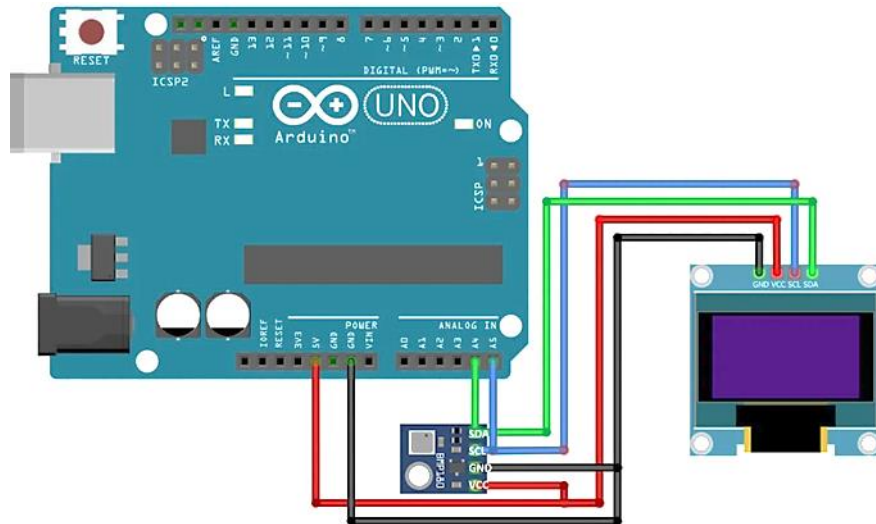

Figure 2: Arduino board's pin connections with a weather sensor and an OLED (schematic diagram)
The circuit diagram of Fig. 2 shows how to connect a weather sensor and an OLED to the Arduino Uno board, but you can follow the same procedure for the Arduino Mega or Arduino Nano. Everything will remain the same except for the pinouts of Arduino Mega or Nano. You must check the pinouts of Arduino Mega or Nano.
1. Connect the circuit diagram as per Fig. 2. Connect the weather sensor and OLED.